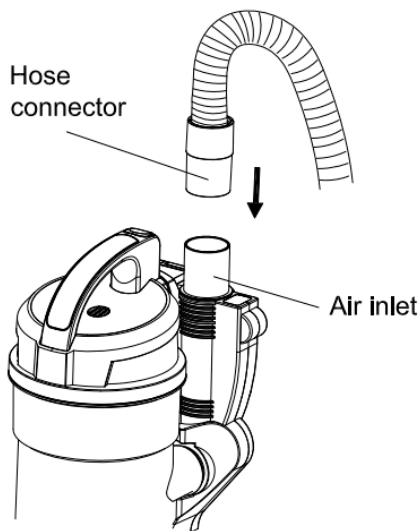

Fig 1
1. To connect the flexible hose to the unit slide the hose connector over the air inlet. (Fig1)